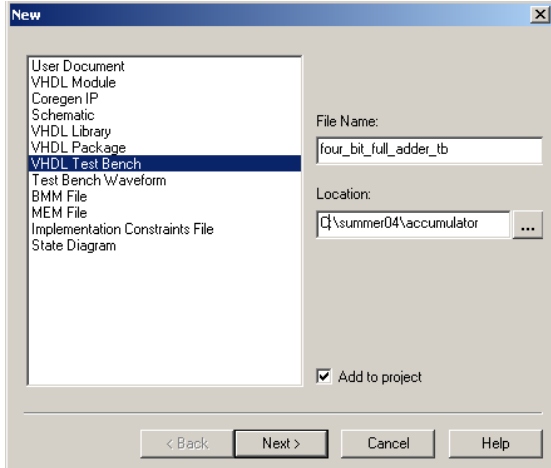
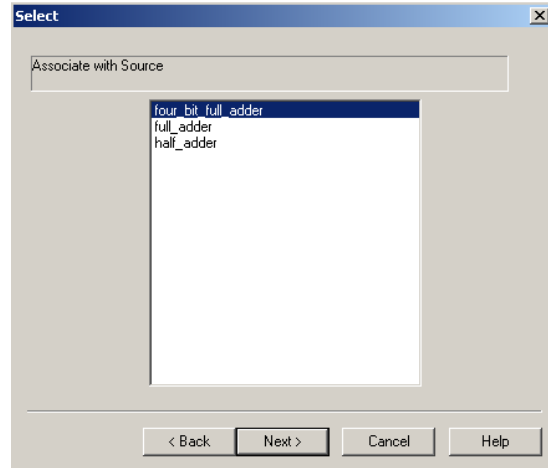
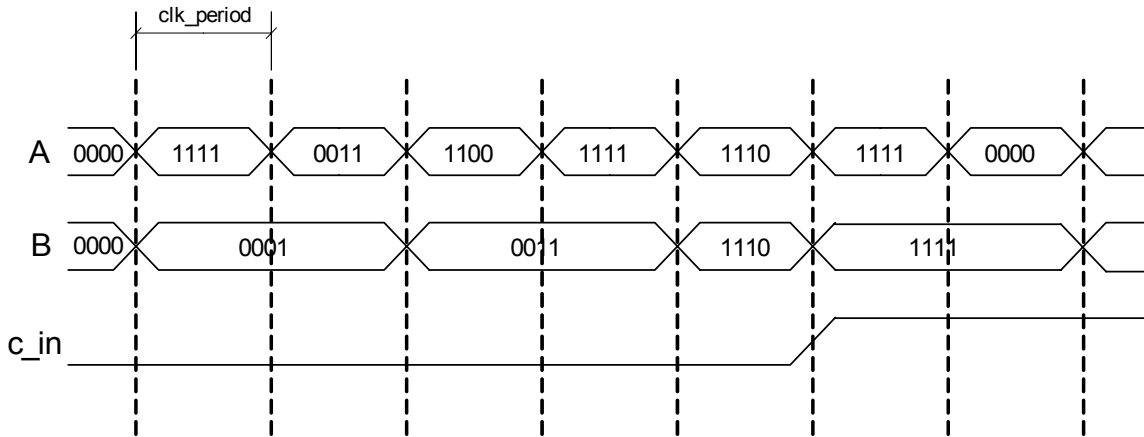

Figure 15
Figure 16
Figure 17; Desired waveform for 4-bit full adder simulation
5. Creating a testbench; Go to **Project** → **New Source**, select **VHDL Test Bench** and enter the name “four\_bit\_full\_adder\_tb” as shown in figure 15. Associate the test bench with the four\_bit\_full\_adder source file as shown in figure 16. Click **Next** → **Finish**. The result will be a new source file where the skeleton is ready for you to fill it out with the processes per each signal. Describe the input signals for simulation following the waveform graph in figure 17.